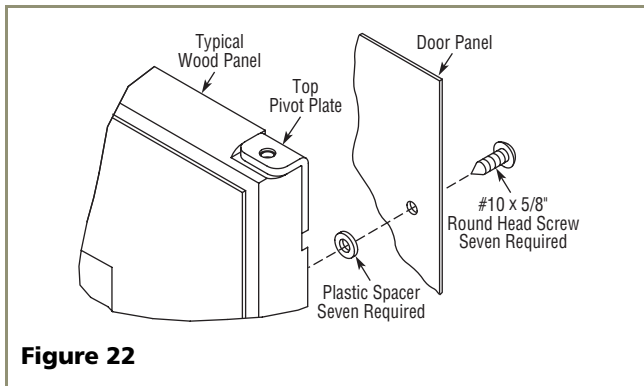

Figure 22
4. Attach the door panel to the overlay panel using #10 x 5/8" wood screws and nylon spacers. The nylon spacers fit between the overlay panel and the door panel as shown in **Figure 22**. The spacers allow the original door panel to slide back into the 1/4"-thick door reveal (channel).